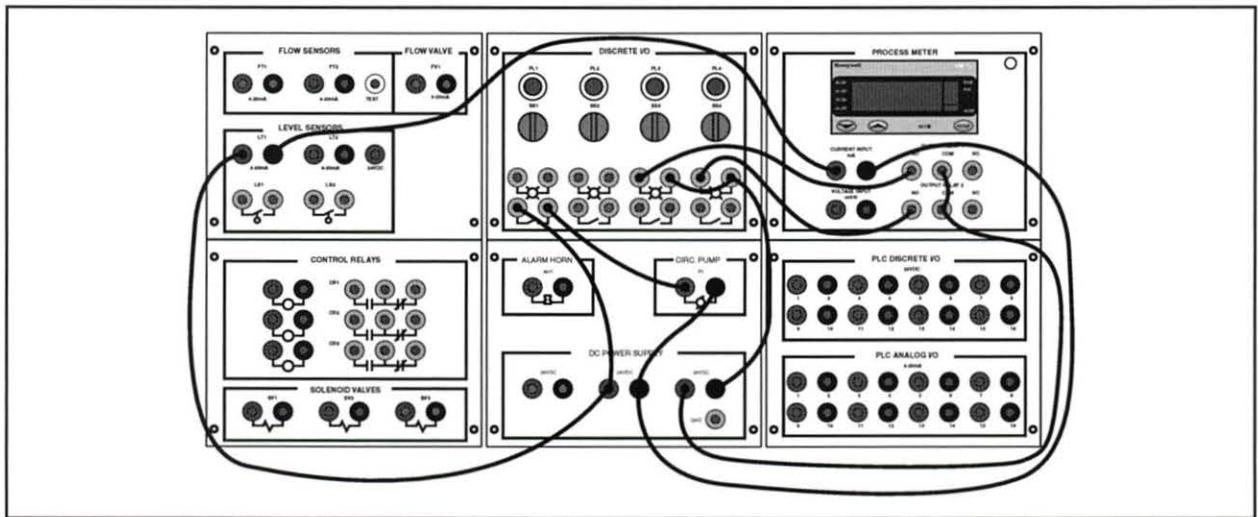

Figure 27. Level Circuit Using Process Meter Alarm Relays
- F. Connect the circuit shown in figure 27.